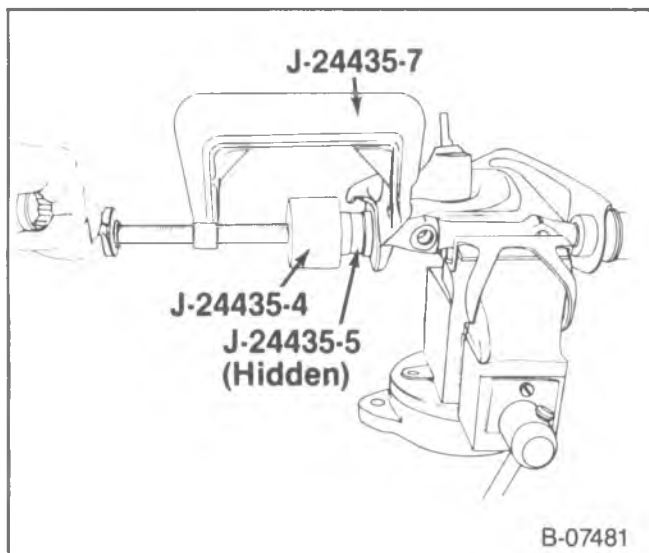

Figure 29—Installing the Upper Control Arm Bushings (R10/1500, G10/1500 and G20/2500 Models)
- Bushings (26) and the pivot shaft (29) into the upper control arm (28).
- Use J-24435-4, J-24435-5, and J-24435-7 (figure 29).
- Tighten the clamp (J-24435-7) to install the bushing (26).
- Slide the pivot shaft (29) into the upper control arm (28), then install the other bushing (26).